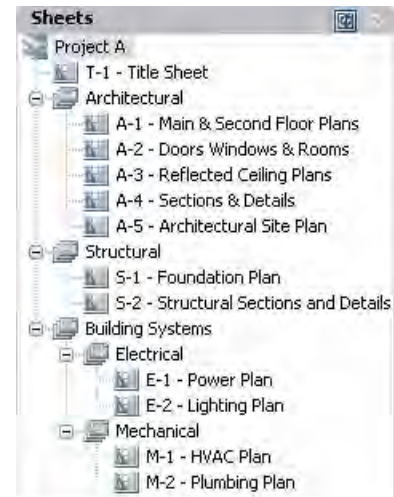

Figure 5.
2. Rename and rearrange your sheet list to match Figure 5.